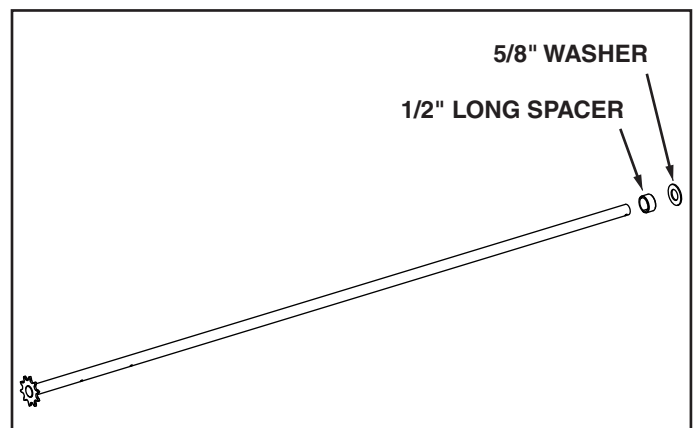

FIGURE 4
5. Assemble a 1/2" spacer and a 5/8" washer onto the axle. See figure 4.